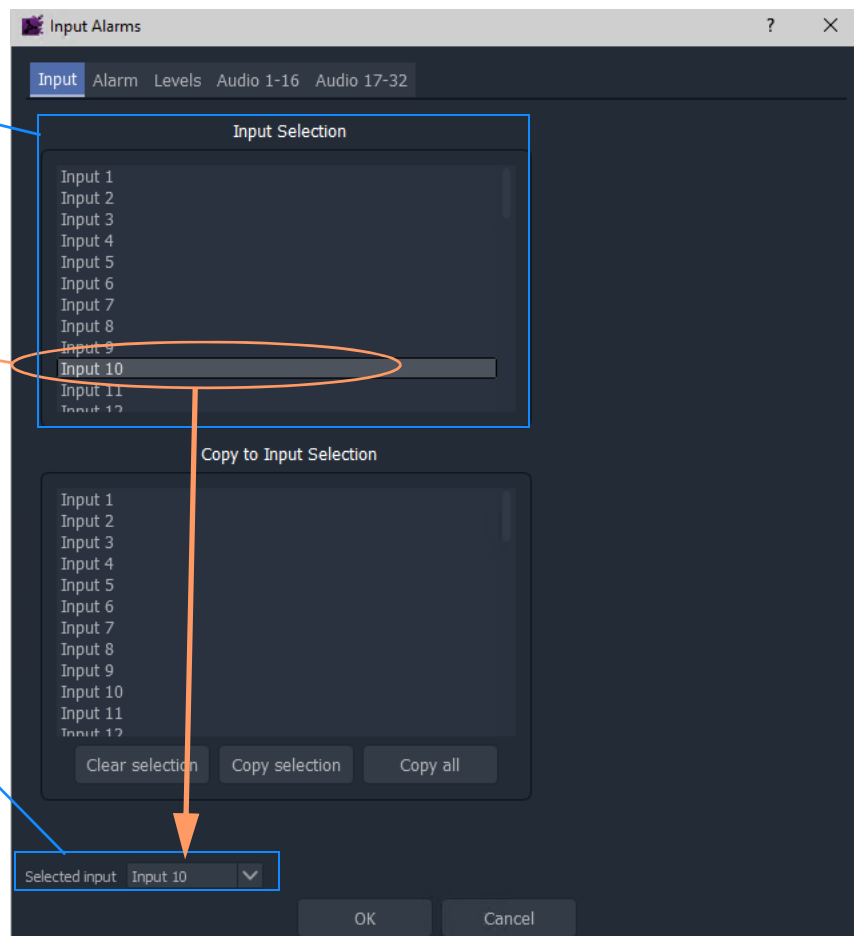

Fig. 3-2: Selecting an Input
- Select a multiviewer input to be configured for alarms, see Figure 3-2 on page 52. (See Selecting a Multiviewer Input to Configure, on page 52.)